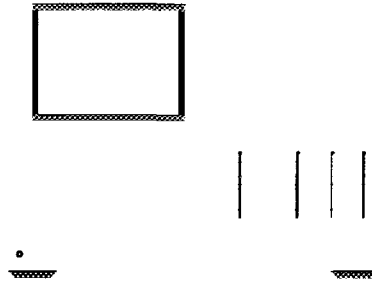

Figure 1-19. Transmission Mode Connections
- 8** Connect the equipment as shown in Figure 1-19 and press *PRESET*.